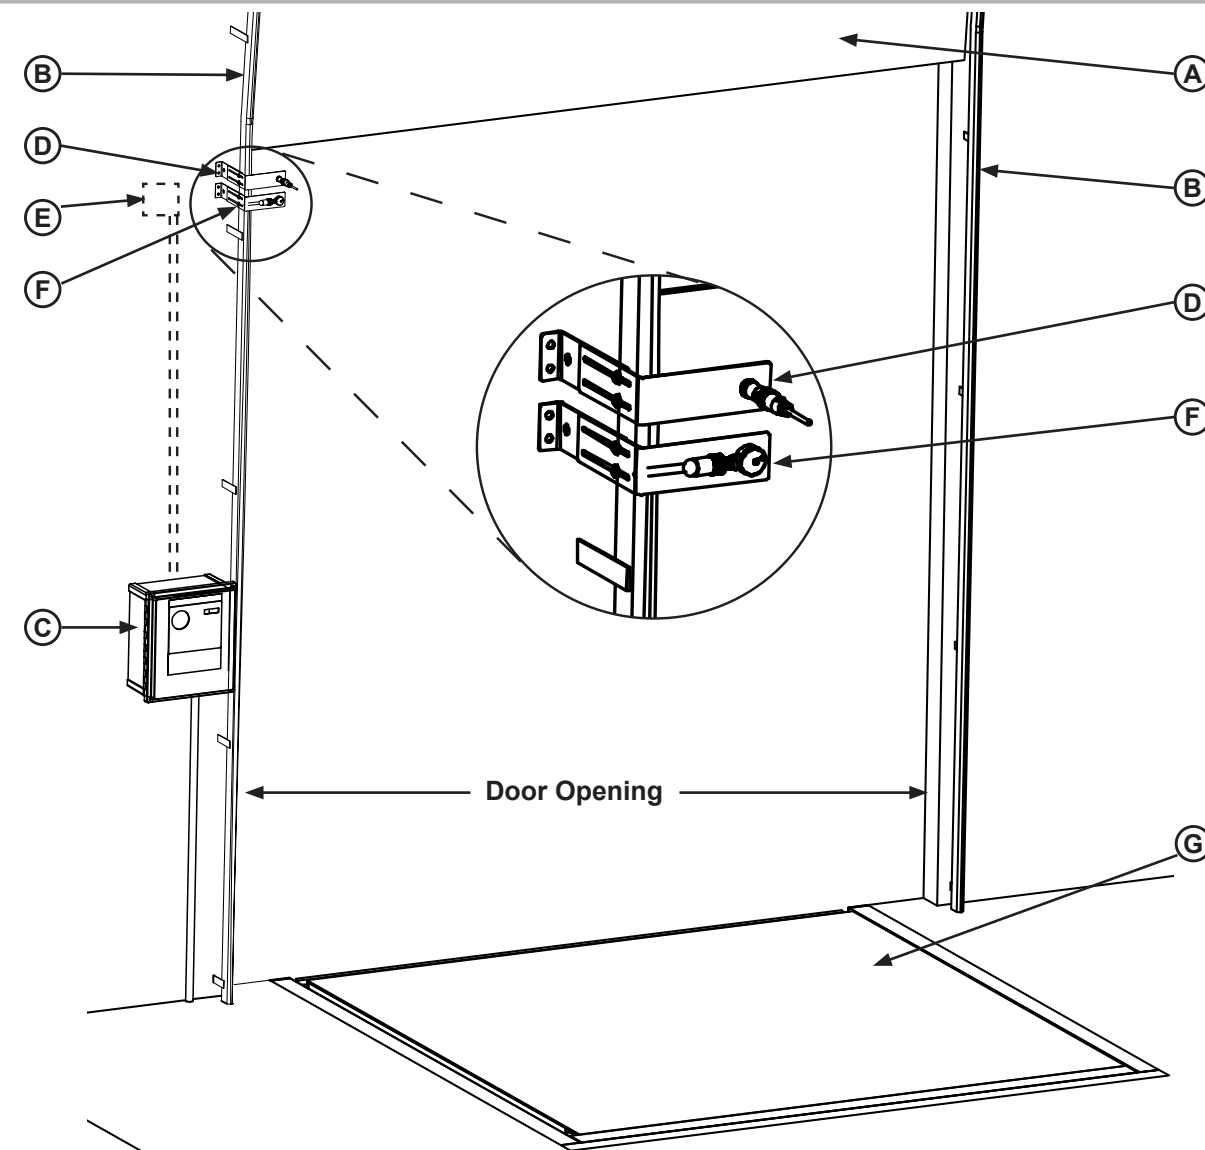

Figure 1
1. Attach cable (M) to the sensor (J).
2. Secure the sensor cable following all applicable local and national codes. See suggested J-Box placement (E) near the sensor(s). Reference **Figure 1**.
1. Determine a suitable mounting location for sensor and bracket (F), according to **Figure 1**.